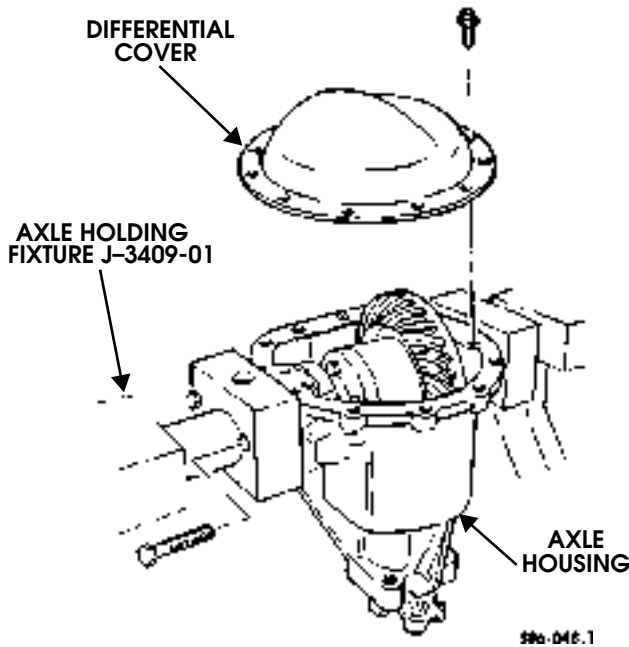

Figure 9-62: Axle Mounted In Holding Fixture
6. Secure two axle holding fixture adapters to housing with four bolts. Place housing in holding stand (Figure 9-62).
7. Position housing so cover faces up. Remove twelve bolts and cover from housing (Figure 9-62).